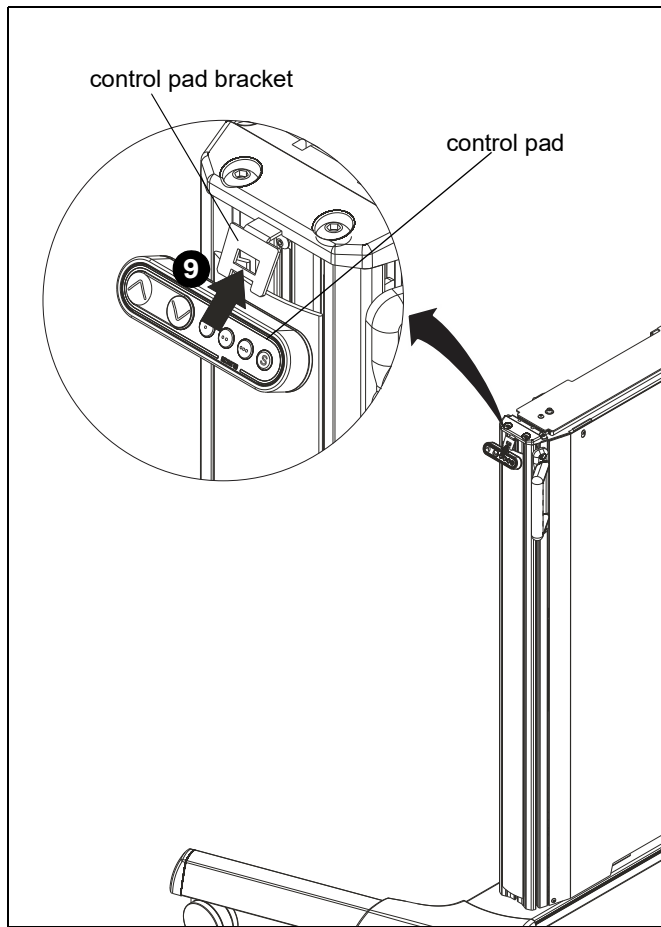

Figure 4
9. Secure control pad into control pad bracket. (See Figure 4)